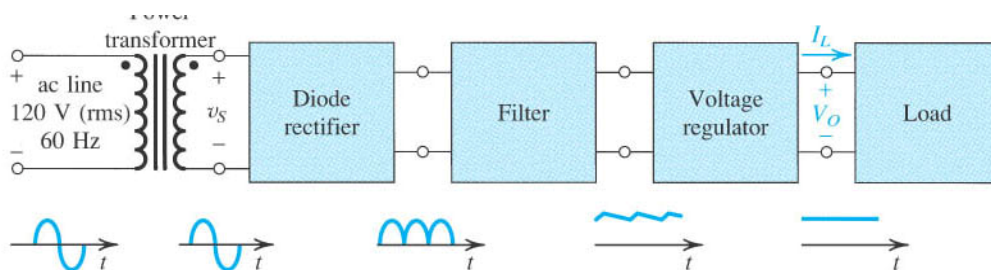

Figure 5.20: Block diagram of a dc power supply.
- Figure 5.20 depicts the block diagram of the dc power supply.